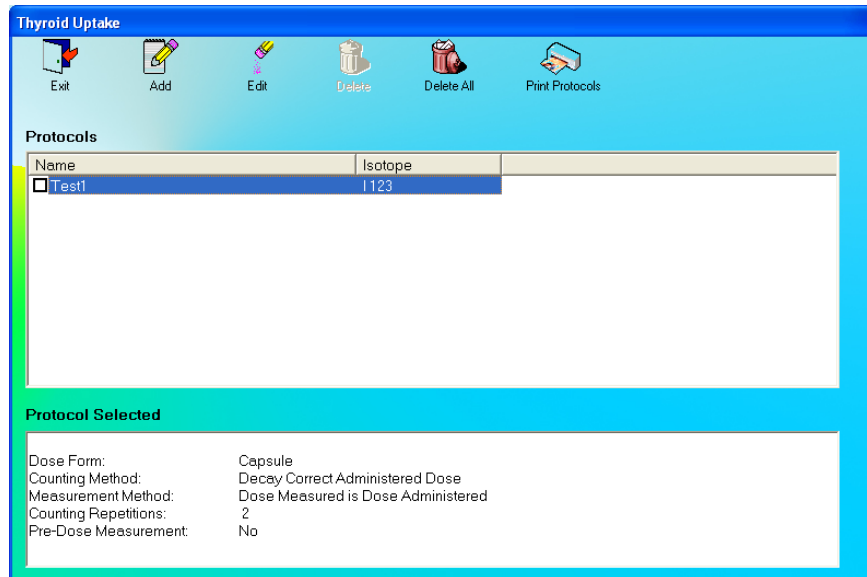

Figure 7-2 Protocols Screen
Click the  icon to access protocols. The screen appears as shown in Figure 7-2 Protocols Screen. The **Protocols** box is empty the first time, because there are no protocols defined as yet by the user. Therefore, the only functions accessible at this stage are  and .
1. Click the  icon on Figure 7-2 Protocols Screen. The Protocol Setup screen will appear as shown in Figure 7-3. In each of the frames on this screen, only one option can be selected.
9. Click the **Done** button or press *Alt+D* to save the protocol or click the **Cancel** button or press *Alt+C*, to cancel the protocol and return to Figure 7-2 Protocols Screen.
10. To add more protocols, click the  icon on Figure 7-2 Protocols Screen.
4. Click the  button to save the changes or click the  button to cancel the changes and return to Figure 7-2 Protocols Screen.